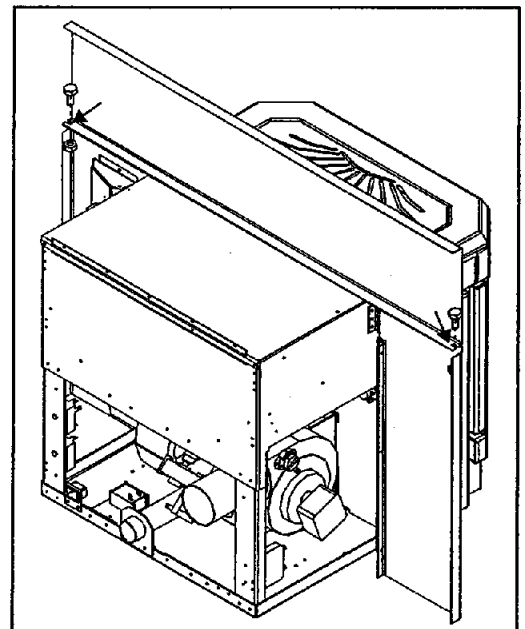

Figure 32: Assembling the Surround Panel, back view.
5. Insert each side panel anchor bolt through the top panel into the corresponding side panel holes and tighten using a $7/16$ " wrench or socket (refer to Figure 32).